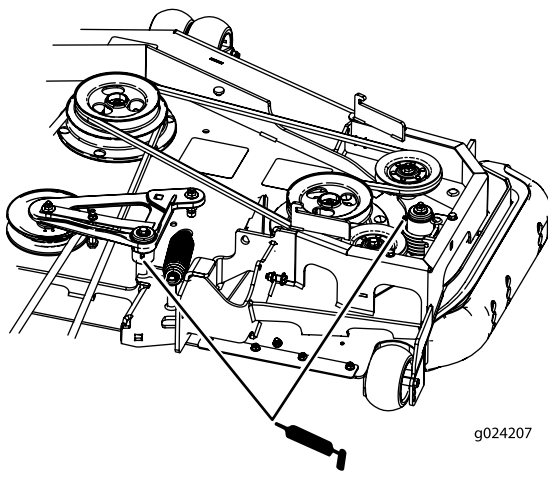

Figure 38
4. Grease the deck-belt idler arms (Figure 38).